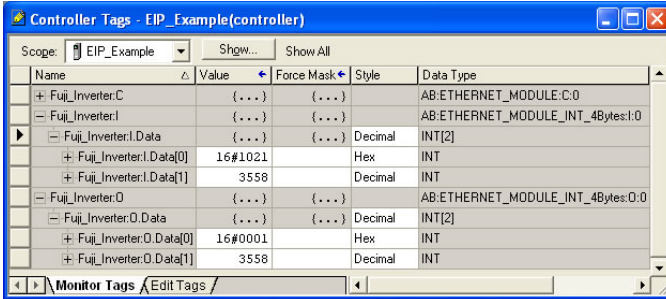

Figure 91: Controller Tags for I/O Access
- 8) By double-clicking “Controller Tags” in the project tree, it is possible to view the newly-added tags. Refer to Figure 91. The Fuji_Inverter:C configuration tag is unused, the Fuji_Inverter:I tag allows viewing of the input data, and the Fuji_Inverter:O tag allows modification of the output data. These tags will be synchronized with the inverter at whatever rate was established for the module’s RPI.
We can directly interact with these tags in order to control and monitor the inverter. In Figure 91, for example, we can see that the first 16-bit word of output data (Fuji_Inverter:O.Data[0]) has been set to a